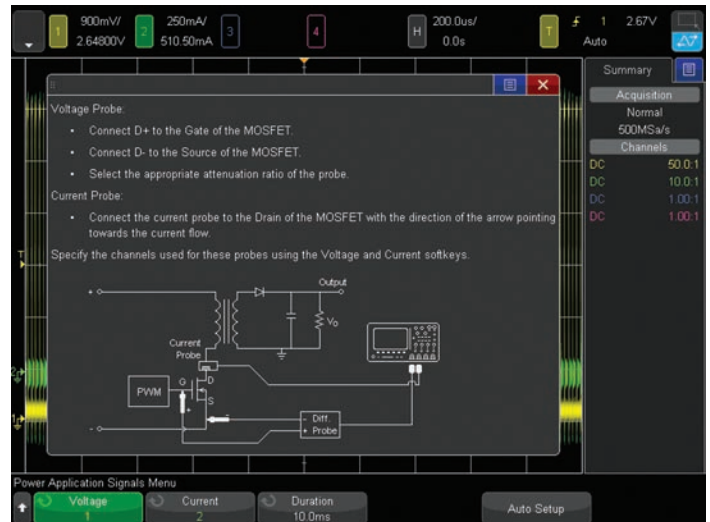

Figure 24. Modulation measurement connections diagram.
4. Connect the N2790A voltage probe between channel-1 of the scope to the gate/base (red lead) and source/ emitter (black lead) of your switching transistor as illustrated in the on-screen connections diagram of Figure 24. Note that although the connection diagrams also shows a current probe connected to the drain, this probe connection is not necessary for this measurement.